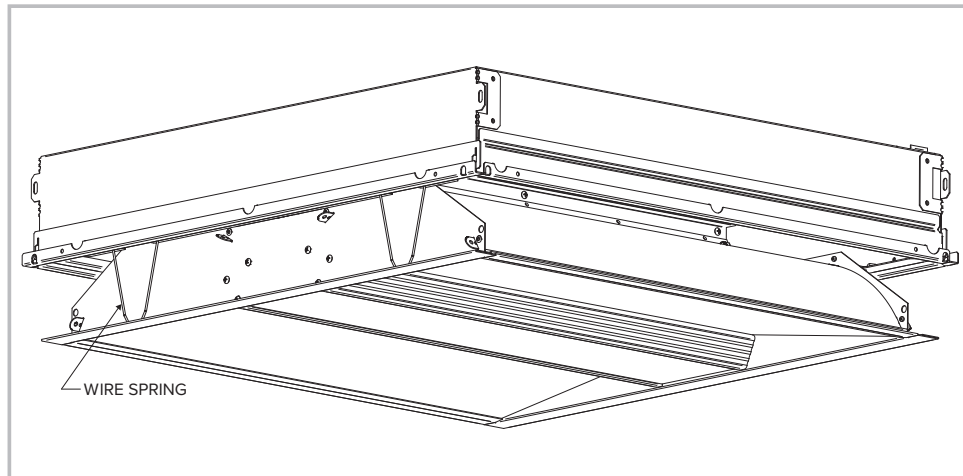

Figure 5
2. Lower Lens/Reflector assembly by grasping along one side edge of reflector and pulling straight away from housing. Grasp assembly along opposite side edge and pull away from housing. Lens/Reflector assembly may temporarily rest on wire springs away from housing as shown in **Figure 5**.
1. Reinstall the lens/reflector assembly by squeezing the wiresprings and passing them through the guide slots in the housing. Reflector assembly may rest in the lower position temporarily if needed. See *Figure 5*.